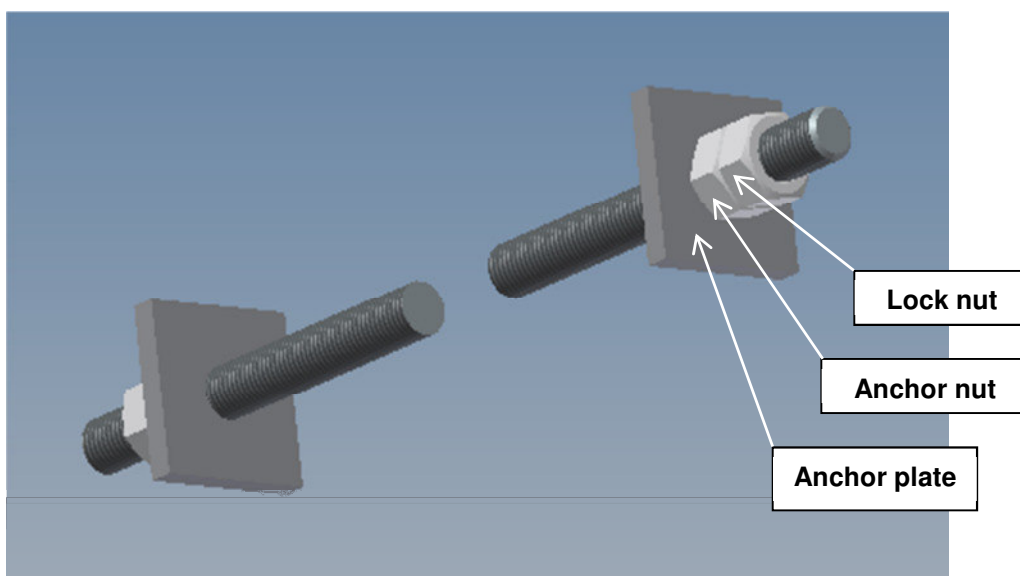

Fig. 8 Bracing element incl. bolting
3.2.7 Installation of the top chord (Fig. 8) at the back wall of the storage cell and fixation to the wall component by the provided bolts.